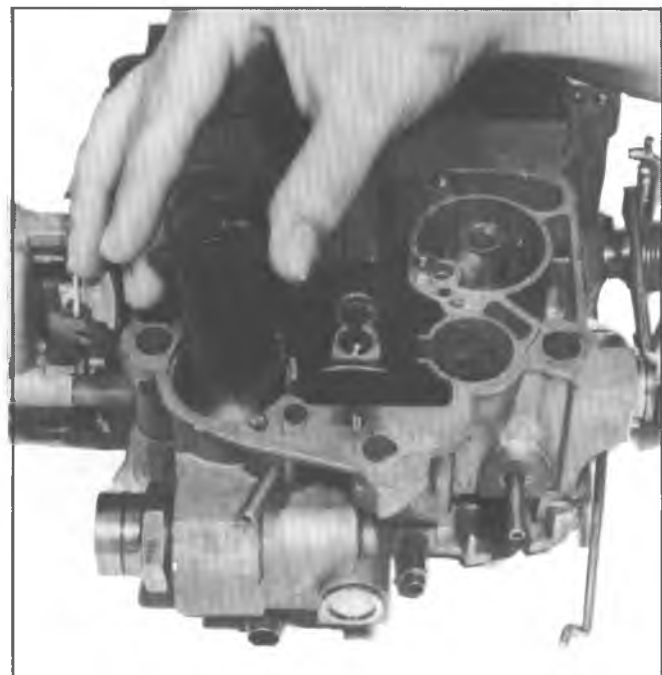

Fig. 12MQ—Removing Aneroid Cavity Insert
8. Remove aneroid cavity insert from float bowl (Fig. 12MQ).